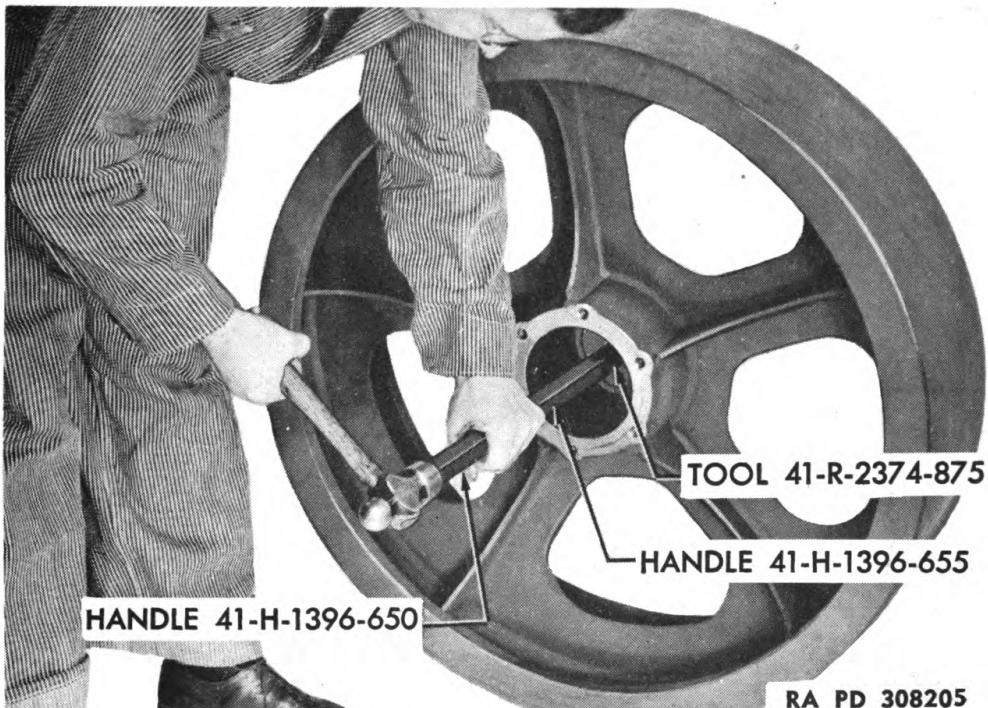

Figure 103 – Removing Second Idler Shaft Bearing Cup
b. Remove Idler Shaft and Bearings. Cut and remove lock wires from heads of retainer cap screws and remove the six cap screws from each retainer. Remove the retainers and shims back of retainers (fig. 107). Tap seal plates out of retainers with small punch and hammer. Tie shims to the retainer with which they were removed. Install adapters (41-A-18-235) in two of the tapped holes in hub of wheel, assemble puller in same manner as for removing guide bushings from shaft (fig. 102), and push shaft and bearings out of wheel. One bearing cup will remain in wheel. Use remover (41-R-2374-875) with two handles (41-H-1396-655) and handle (41-H-1396-650) to remove this bearing cup (fig. 103). Press bearing cone and roller assemblies off shaft.